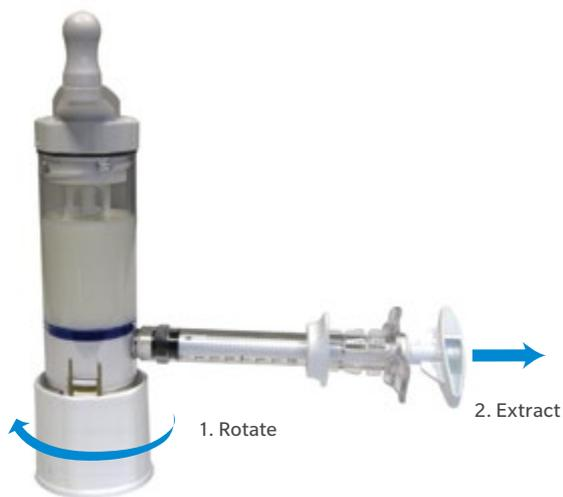

Fig. 95
- As soon as cement powder and monomer are fully mixed, deliver into Cement Delivery Syringe (Fig. 95).